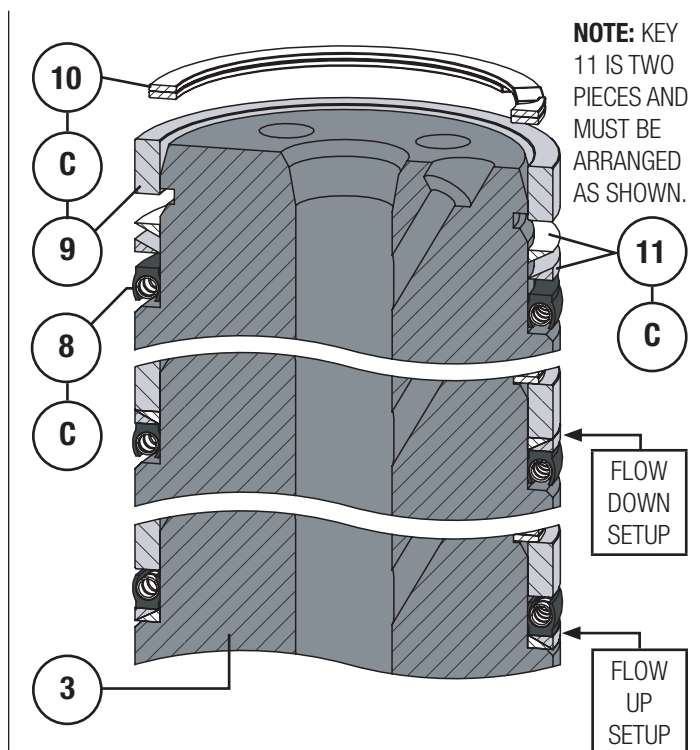

Figure 20 Model 360 Three-Piece Plug Seal Assembly with Anti-Extrusion Rings
- 1 Refer to Figure 20 for which plug seal flow set up to use. Apply Lubriplate® No. 105 (Key C) to the surface of the seal ring (Key 8) and anti-extrusion rings (Key 11) and carefully install them on the valve plug (Key 3) as shown. Make sure the seal ring and anti-extrusion rings are in the proper orientation.